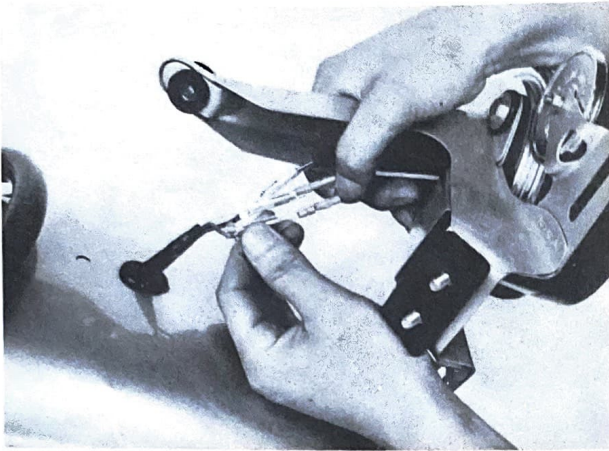
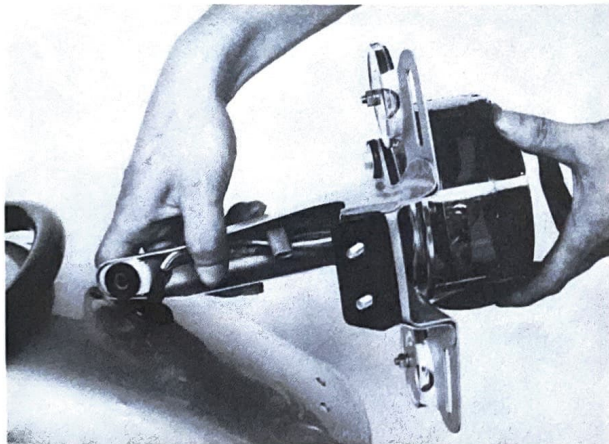

Fig. 36
Fig. 37
- b. Connect the lead wires of the taillamp ass'y and secure them with the hook. (The lead wires of the same color must be connected to each other.) (Fig. 36) (Fig. 37)